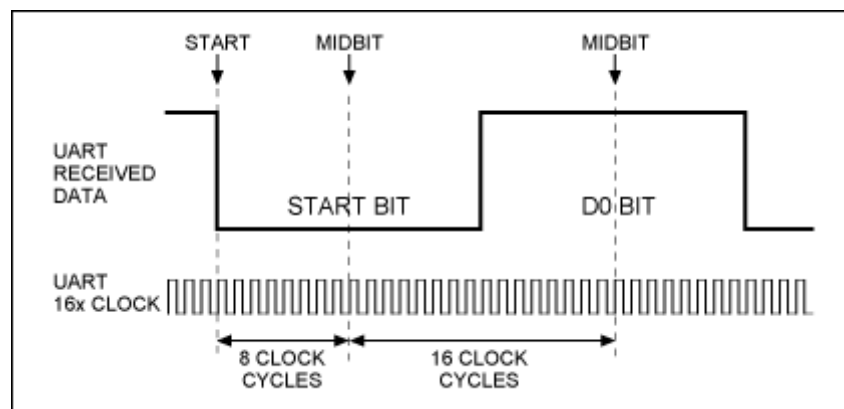

Figure 2. Example of data bit sampling in the middle²
In addition, in order for the receiver to reliably identify the values (logic levels) of the transmitted data bits, it is recommended that this circuit operate at a rate 16 times faster than the selected baud rate. The data bit should then be scanned in the middle of the single bit transmission interval, as shown in Figure 2¹.
- Consider the input data stream in the format: START bit, 8 data bits, 1x STOP bit, sent at 9600 baud per second. The receiving circuit will operate at a 16x higher frequency (CLK signal) compared to the baud rate of the individual data bits. Your task will be to scan the data bits in the middle of the transmitted interval (see figure 2).